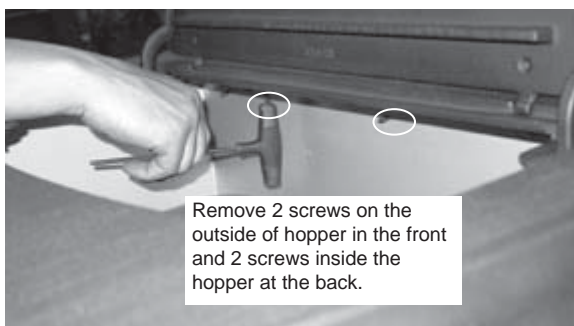

Figure 21.1
- Remove cast top from appliance. Two fasteners are located outside the hopper on each side. The other two are located in the hopper along the back. **Figure 21.1.** Remove the rear screen of the appliance (be sure the vent is disconnected) by removing the seven screws. Lift slightly upwards as to not damage the hopper switch and set aside.